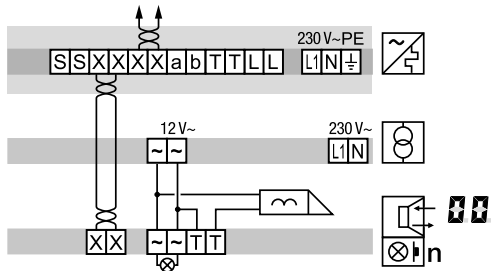

Figure 8: Door release connection on the door station
- Pull off connection terminal block (12) from the audio insert.
- Connect the 2-wire bus cable to the terminals **XX** of the connection terminal block (Figure 8).